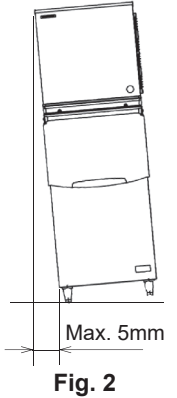

Fig. 2
- * Level the dispenser unit/ice storage bin in both the left-to-right and front-to-rear directions. If using an ice storage bin, adjust the ice storage bin legs to level. See Fig. 2.